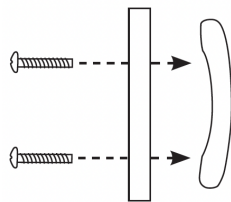

Figure 5
**7:** Install handle if desired. [Figure 5]